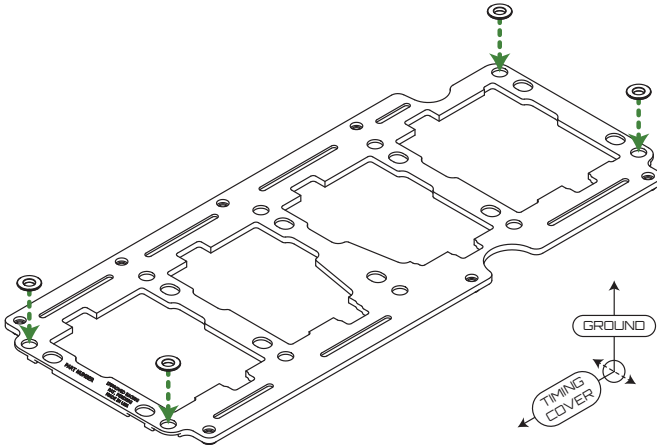

Figure 4 - Inserting the Reducer Bushings for Factory Main Studs
2. If using the factory main cap hardware, insert the four HSP-1009 reducer bushings, as shown in Figure 4, while securing the scraper to the engine.